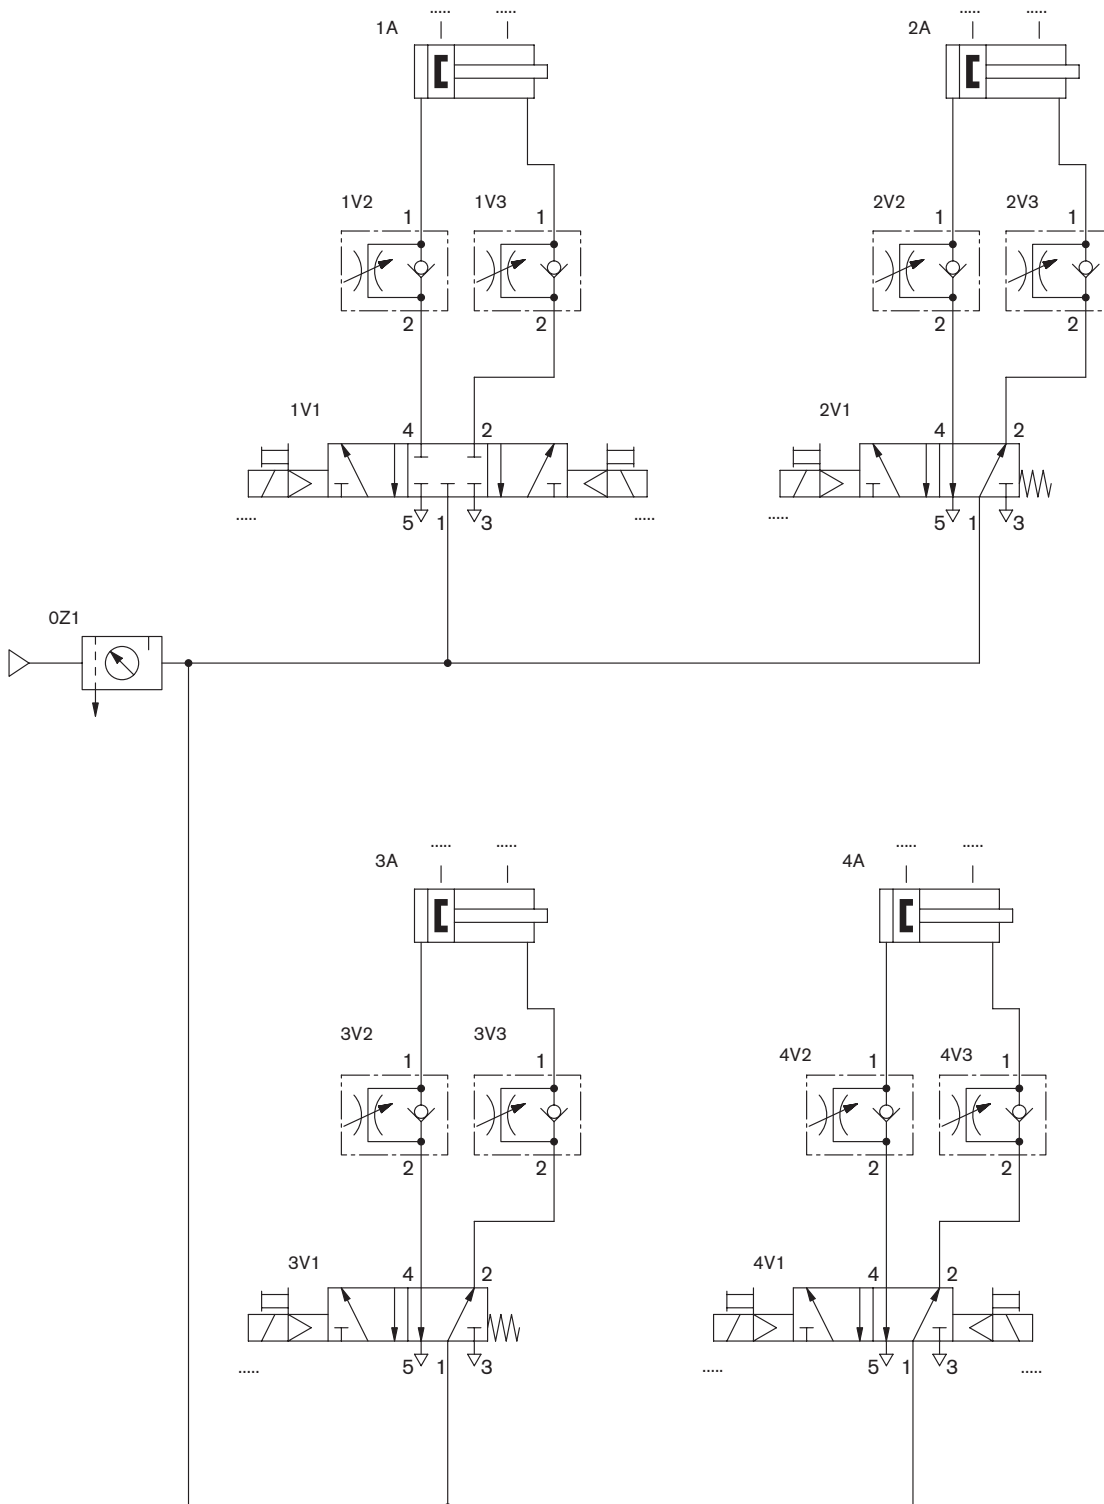
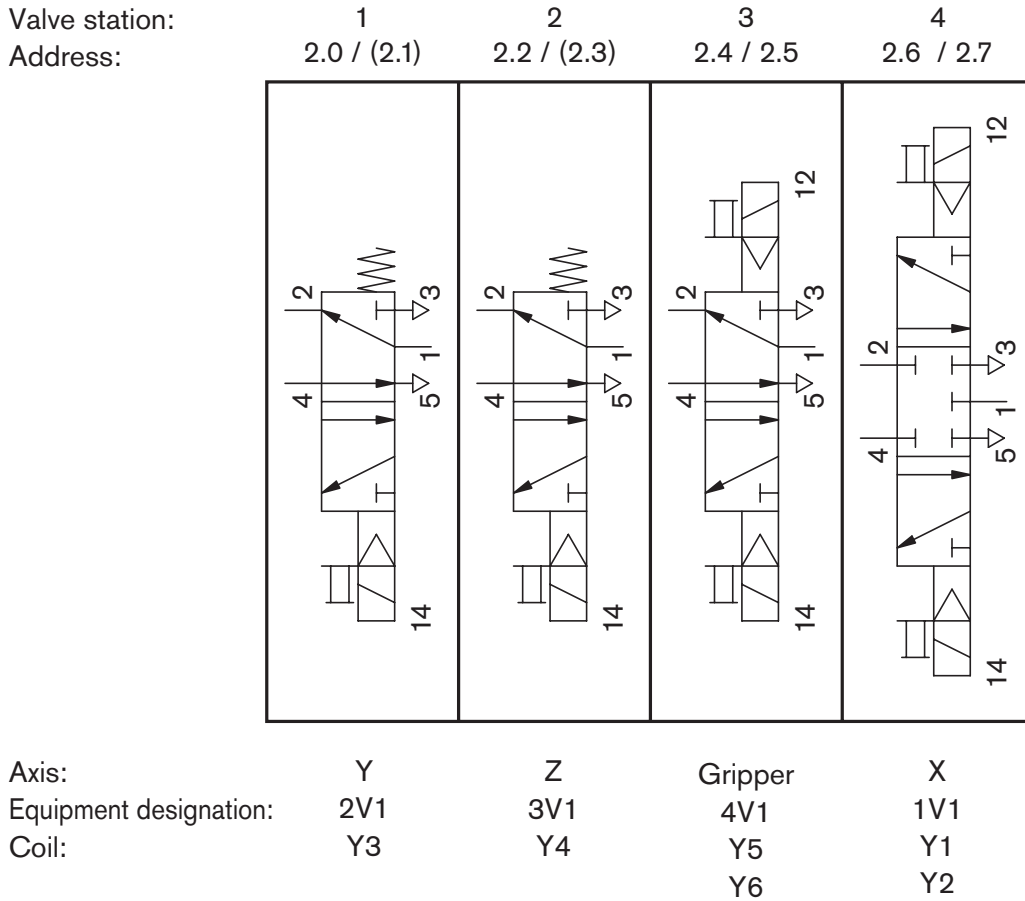

Fig 04-6: Pneumatic circuit diagram
Fig. 04-8: Arrangement of the valves on the valve carrier system
Supplement the assignment table for the inputs used of the PLC taking account of the information from Fig. 04-6.
Supplement assignment table for the outputs used of the PLC taking account of the information from Fig. 04-6 and Fig. 04-8.
2. Set up pneumatic circuit according to Fig. 04-6.